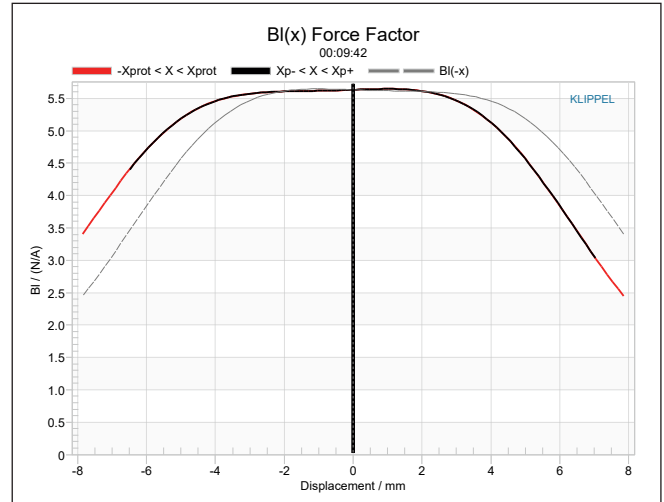
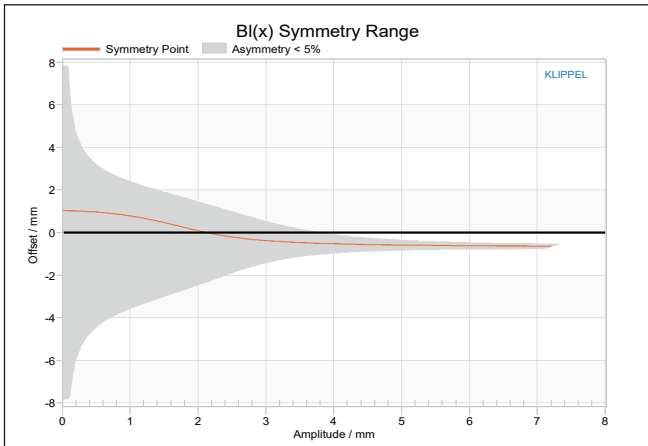

Figure 6: Klippel analyzer BI(X) curve for the Scan-Speak 15W/8534T00.
Figure 7: Klippel analyzer BI symmetry range curve for the Scan-Speak 15W/8534T00.
The BI(X) curve for the Scan-Speak 15W/8534T00 5.5" woofer (Figure 6) is moderately broad and symmetrical as you would expect for a moderate X_{max} (5.0mm) 5.5" driver. Looking at the BI symmetry plot (Figure 7), this